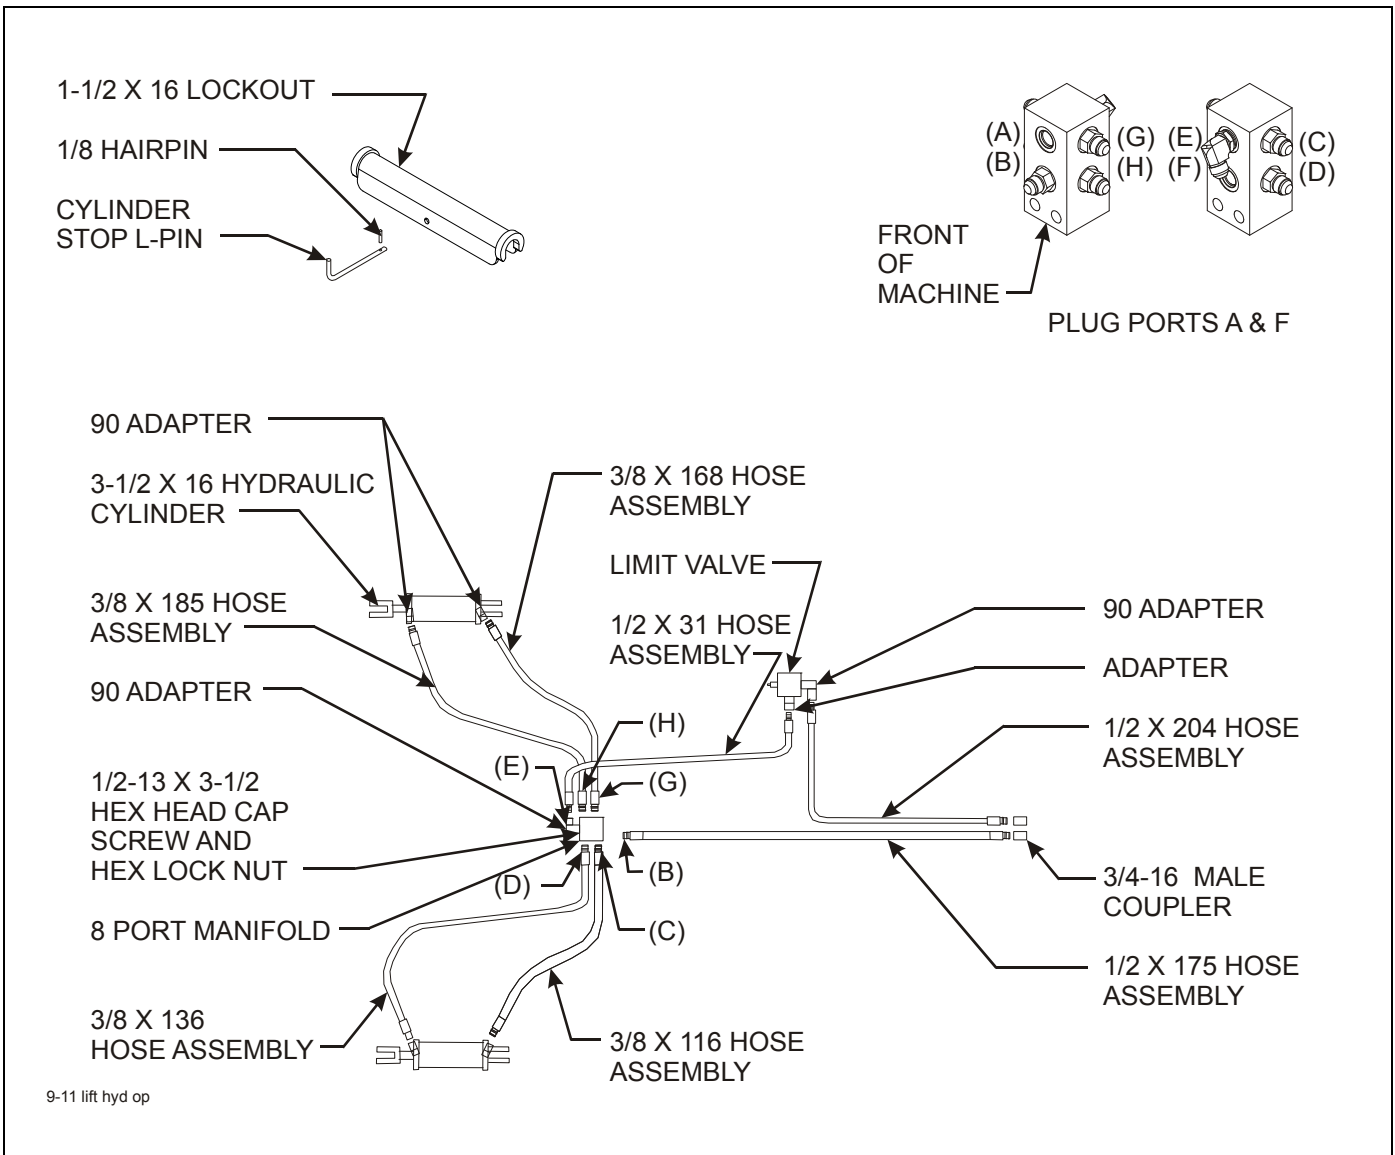
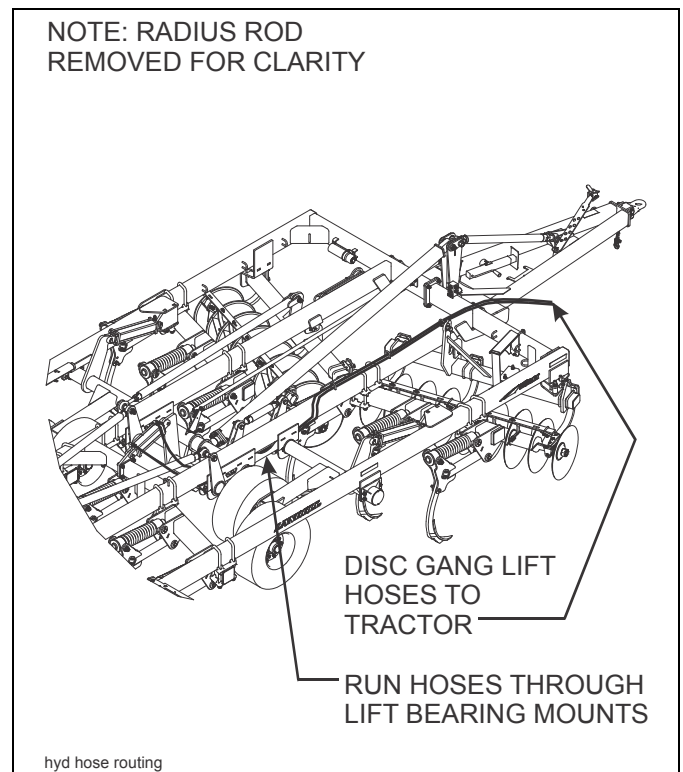

Figure 3-18: Wheel Lift Hydraulic Installation (2211-09 & -11)
Figure 3-23: 2211-09 and -11 Hydraulic Hose Routing
Refer to **Figures 3-18 through 3-21** for wheel lift, disc gang lift, and wing fold hydraulic diagrams. See **Figure 3-23** for routing of hydraulic hoses on 2211-09 and -11 models.
2. Install fittings into manifolds according to **Figures 3-18 through 3-21**.
3. Install wheel lift and disc gang lift system hoses per **Figures 3-18, 3-19, and 3-20**.